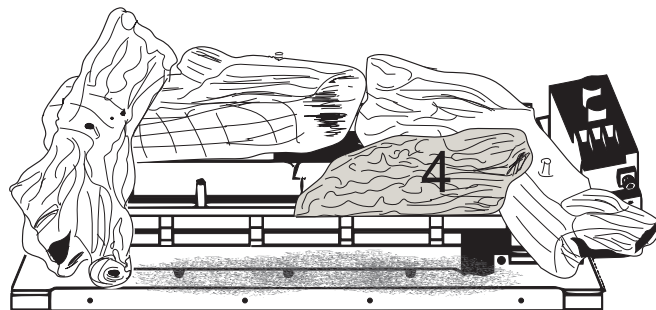

Figure 6.5 - Log #4 Placement
5. Hold log #4 with the pointed end toward the left. Place log #4 by positioning the pin locator hole on the bottom of the log over the right pin behind the grate and resting the right end of the log over the notch on log #1. See Figure 6.5.